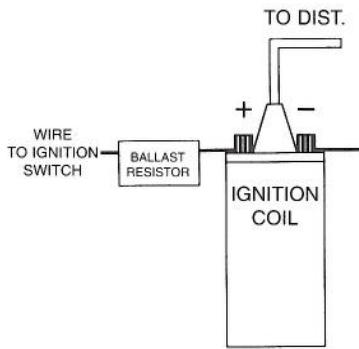

FIGURE 2
5. The red wire from the Ignitor must be connected to the **positive (+)** side of the coil, or a 12 volt switching power source. The black wire must be connected to the negative (-) side of the coil. (See Figure 2 & 3).
11. Connect the *Ignitor* black wire to the negative (-) side of the ignition coil. (See Figure 2).
12. Connect the *Ignitor* red wire to the positive (+) side of the ignition coil. (See Figure 2).